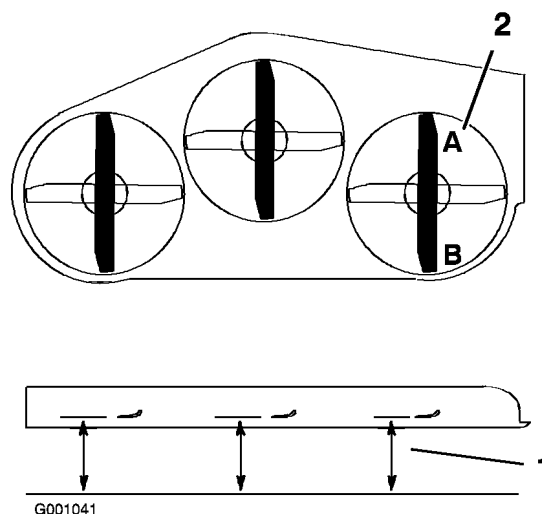

Figure 66
- Position the right blade front-to-rear (Figure 66).
- Measure the right blade at the **A** location, from a level surface to the cutting edge of the blade tip (Figure 66).
- Measure the right blade at the **B** location, from a level surface to the cutting edge of the blade tip (Figure 66).
- The mower blade should be a 1/4 to 3/8 inch (6 to 10 mm) lower at position **A** than at position **B** (Figure 66). If it is not correct, proceed to the following steps.